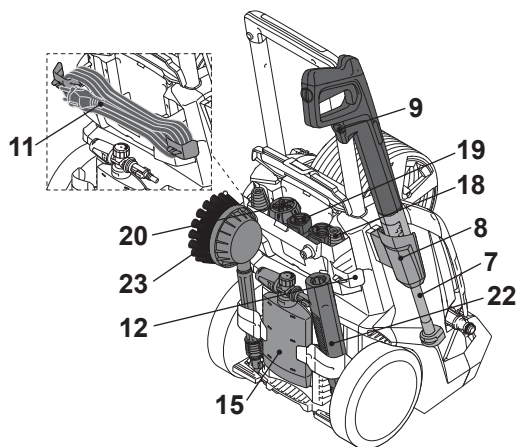

Fig. 17
Use the supply cord holder (12) to store the supply cord (11) (Fig. 17).
Use the upper spray gun holder (8) to store the spray gun (9) and extension lance (7) (Fig. 17).
Accessories (soap tank (15), rotary nozzle (18), rotary nozzle adaptor (19), 5 in 1 nozzle (20), short extension lance (22), rotary brush (23)) can be stored at the back of the product. (Fig. 17).